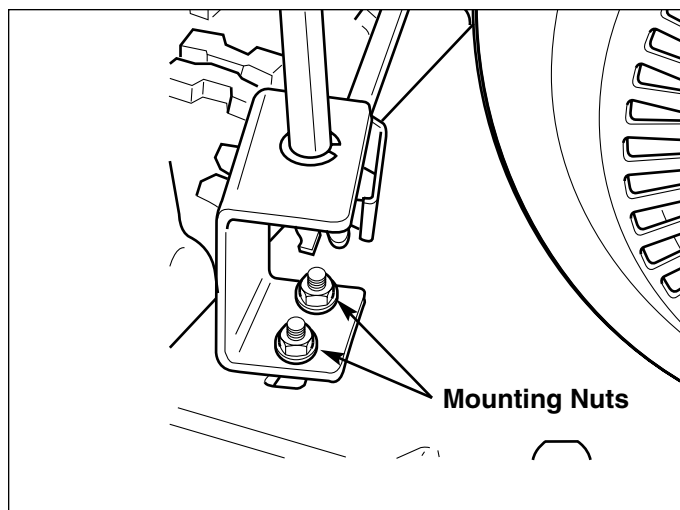

Figure 20. Chute Direction Gear Adjustments
1. Loosen the gear bracket mounting nuts (Figure 20).